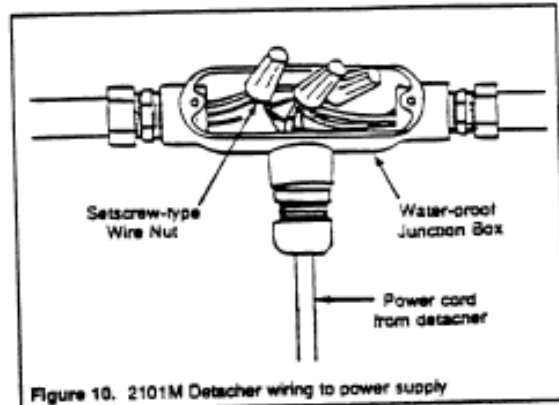

Figure 10. 2101M Detacher wiring to power supply
2. Connect the wires in each power cord to their corresponding wires from the power supply. Connections must be made using setscrew-type wire nuts, as shown in Figure 10. Secure the cord to the junction box with a 1/2" water-tight, strain-relief connector.